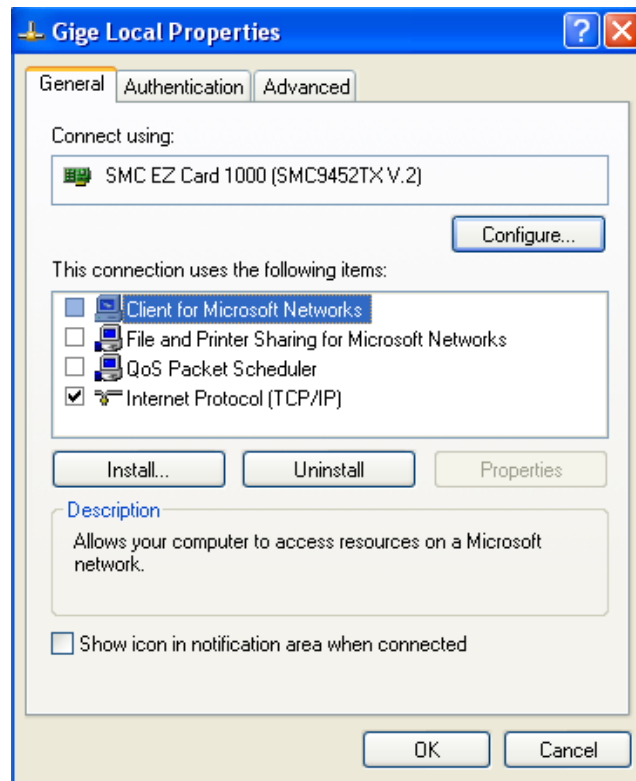

Figure 9. Network card main properties window.
- Open the Network Connections Dialog as follows: From the Windows desktop select **start**, then select **Control Panel**, then double click on the **Network Connections** icon. Double click the relevant network card listed or right-click the relevant network card and select **Properties**. This will open the properties window for your network card. See Figure 9.
- From the main properties dialog as in Figure 9, make sure that only the **Internet Protocol (TCP/IP)** check box is selected then click **OK**. The card is now optimized for use with the Prosilica GC camera.